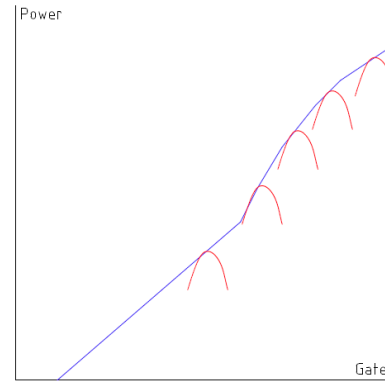

Figure 7: Variation of turbine efficiency with off-cam blade angle
- (l) The adjustment factor, deff, can be used to account for reduction of Kaplan turbine power when the blade angle is at an off-nominal angle. The adjustment is illustrated by Figure 7 and is given by